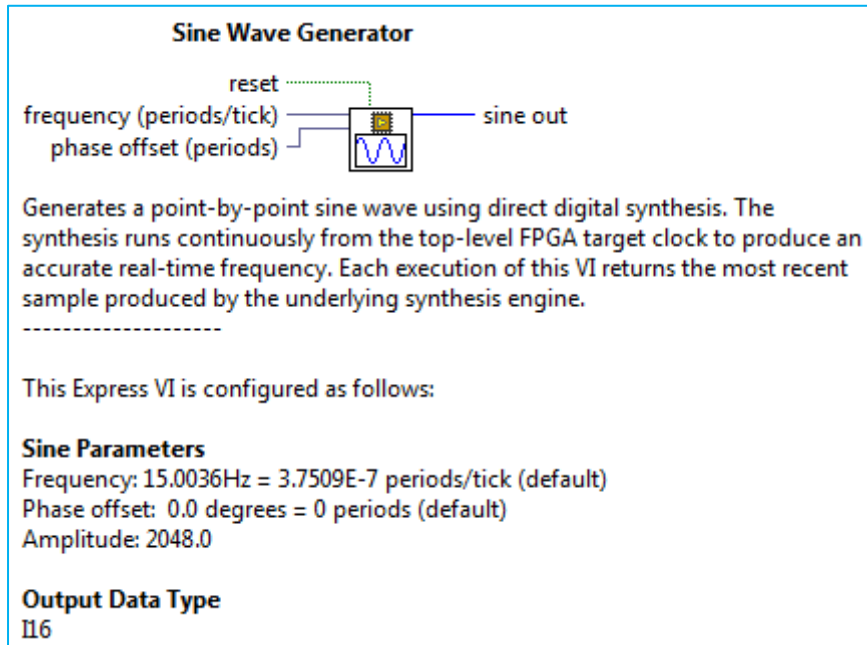
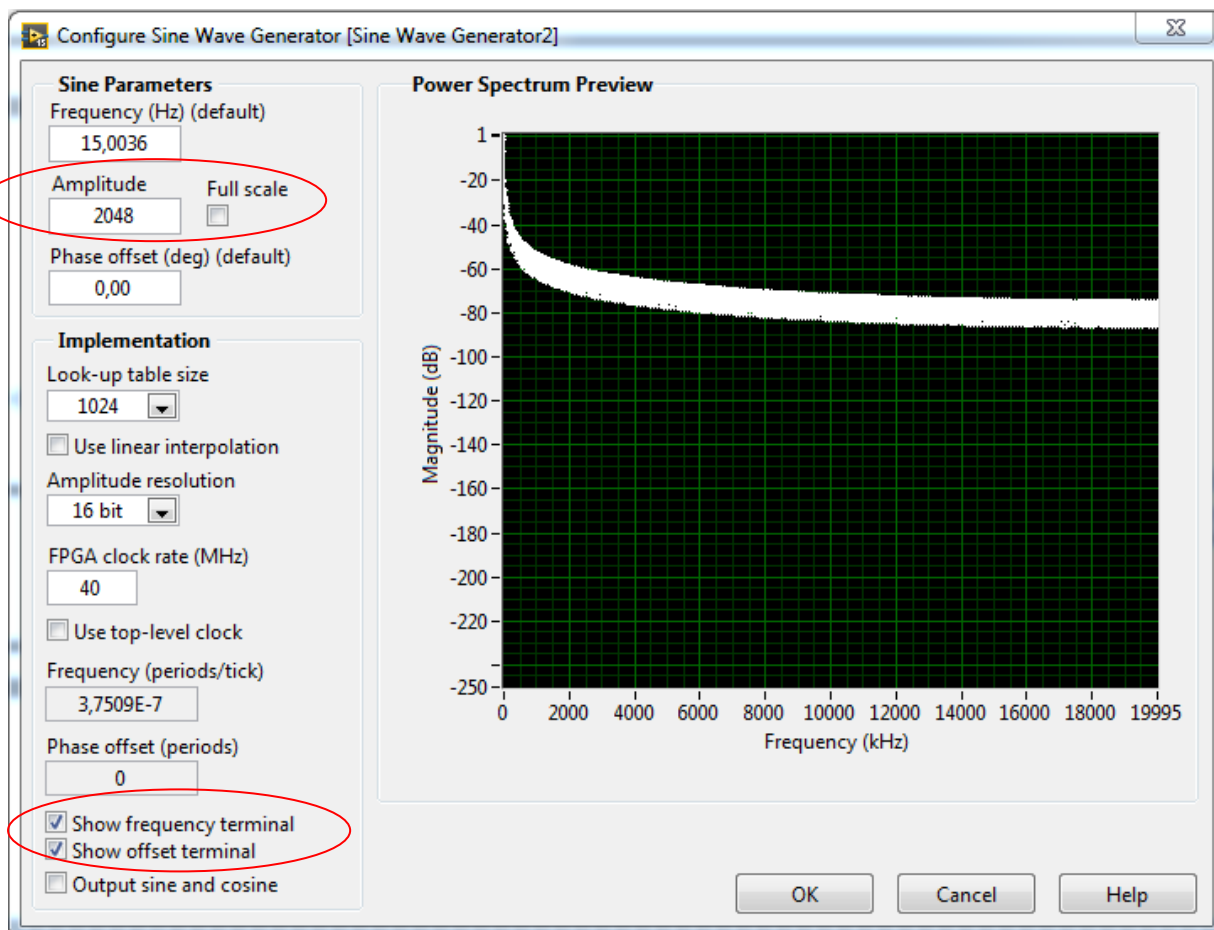

Fig. 6. Sine Wave Generator.
Fig. 7. Configure Sine Wave Generator.
- 9) The Context Help window for **Sine Wave Generator** is shown in Fig. 6. When you first place this function on the Block Diagram, frequency and phase offset are not adjusted as inputs. In order to view these terminals click **Show frequency terminal** and **Show offset terminal** as in Fig. 7 from Configuration window.
- In addition, set the **amplitude** as **2048** as shown in Fig. 7 from Configuration window.